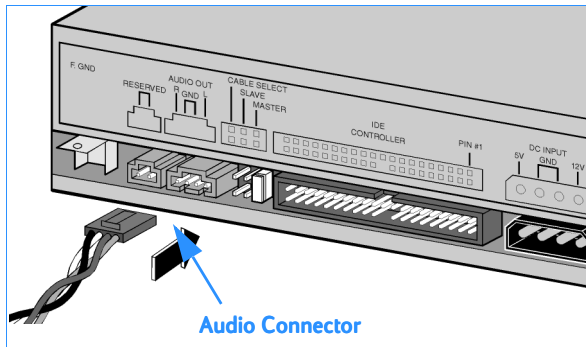

Figure 20 Audio Cable Connector on Drive Back
- To hear sound through your computer's sound system, connect one end of the audio cable to the back of the hp dvd-writer drive (see Figure 20) and the other end to an audio connector on your sound card or motherboard.